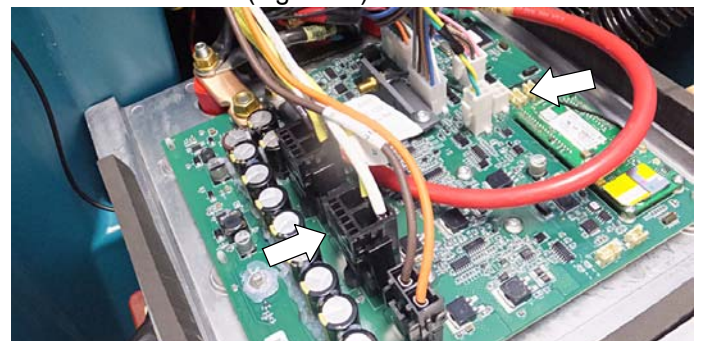

Fig. 11
13. Reconnect the seven wire connectors to the new control board as shown (Figure 11).